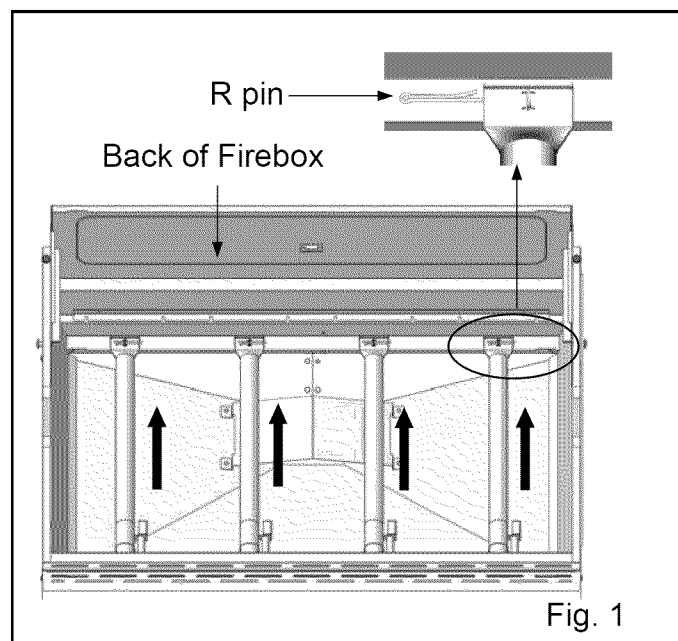

Fig. 1
The grill has a fold out buffet table which can be retracted when not in use. (Fig. 1)
1. Remove the R pins at the back of main burners to detach burners from bracket. Lift back of main burners while sliding burners out of firebox, disengaging main burners from valves. (Fig. 1)